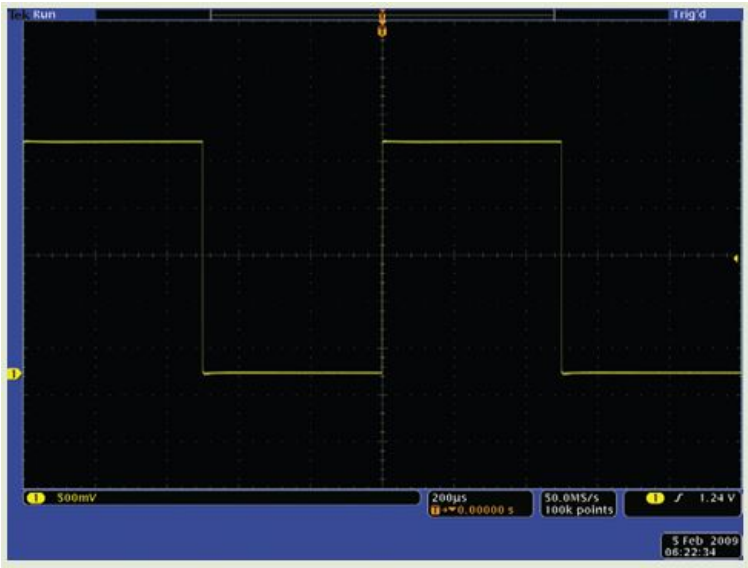

Figure 1.2: Probe Adjustment Signal
2. The Probe Adjustment Signal as seen in **Figure 1.2** represents a: